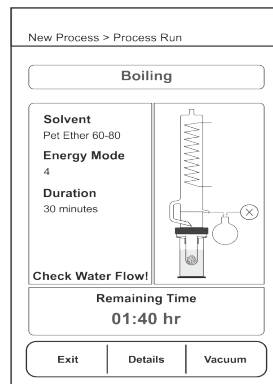

Fig. No. 36.3
- **Process Run Warning** (Ref. Fig. No. 36.3):